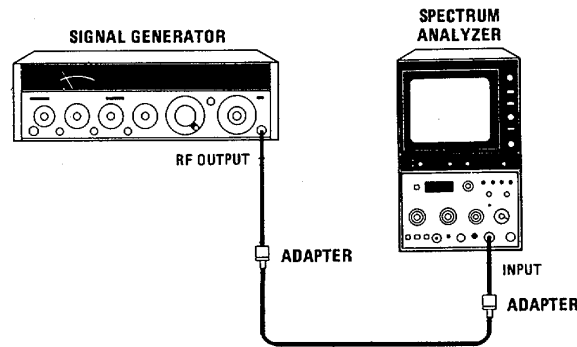

Figure 4-11. Resolution Bandwidth Selectivity Test Setup, 100 kHz to 3 MHz
13. Connect equipment as shown in Figure 4-11.